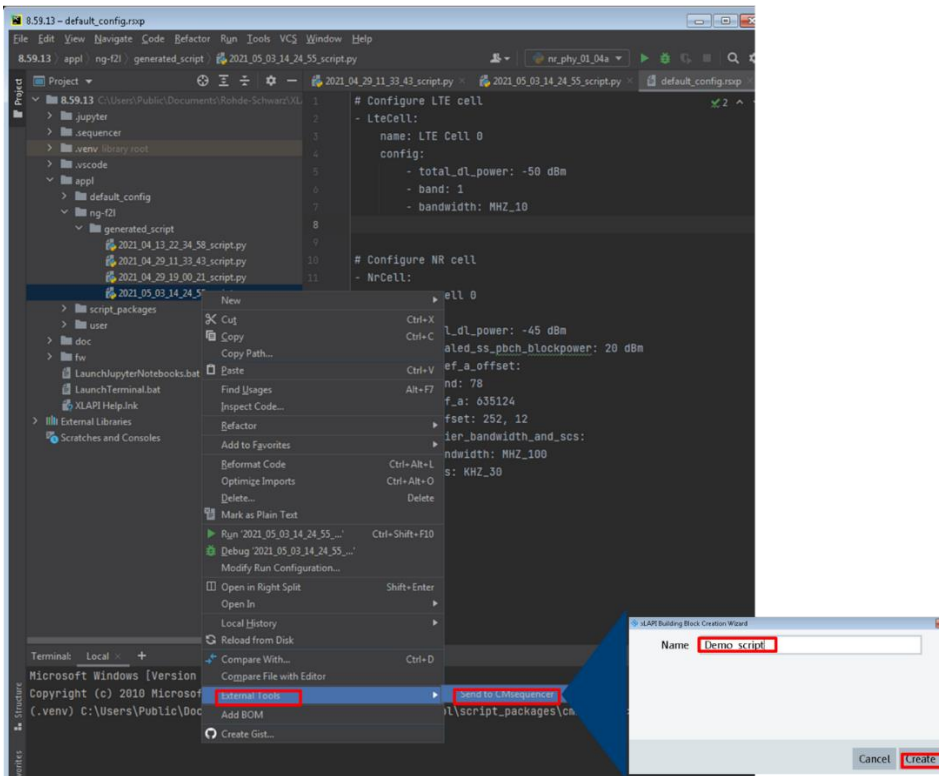

Fig. 2-25 Run external tool 'Send to CMsequencer' in PyCharm
2. Generate CMsequencer building block in PyCharm (see Fig. 2-25)